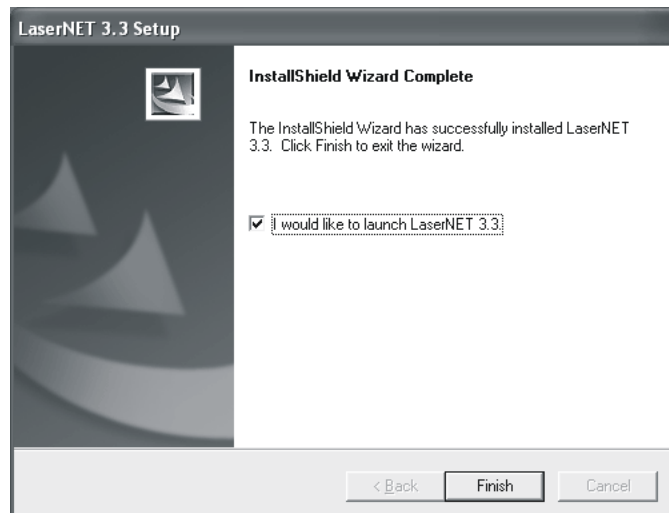

Figure 1-10. Setup Complete Screen
7. The Setup Complete Screen (Figure 1-10) informs the user that the setup is now complete. It offers the choice to either view the ReadMe file or launch LaserNET. Check the preferable box and then click the **<Finish>** button to end the InstallShield® Wizard.